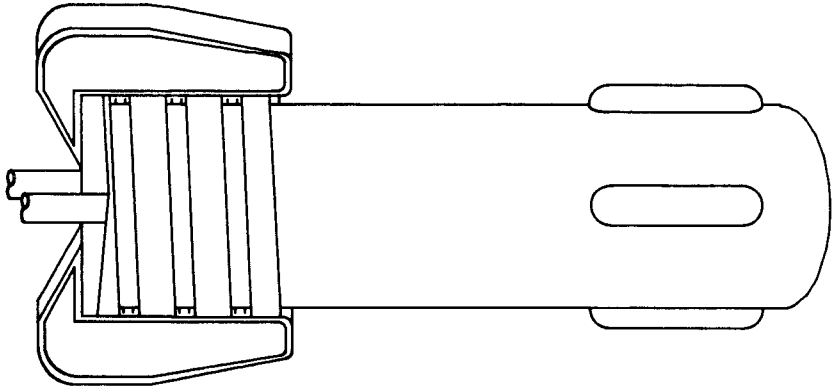

Fig. 6—Completed Installation
3.06 Remove the filled closure from the plastic bag and insert splice and twist-top assembly into closure. Turn closure onto twist-top until the ridge around the top contacts the closure (Fig. 6). The splice may be buried immediately.